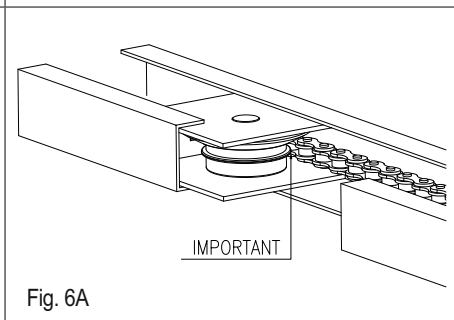

Fig. 6A
**Caution! On completion of automation assembly, check correct tension of the chain (belt) ATT. fig.6A. If the chain is loose when the door is closed, adjust nut D.**